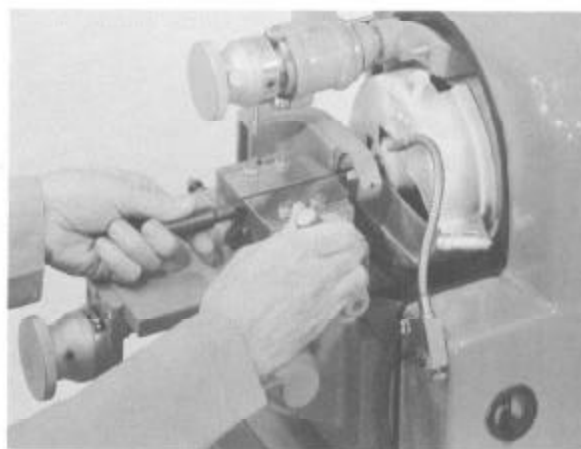

Figure 4c
5. Loosely clamp the drill between the vise jaws. Push the drill into the locator bushing and rotate it clockwise until its lips contact the locator stops. Lock the vise jaws with the clamping lever. (See Figure 4c.)